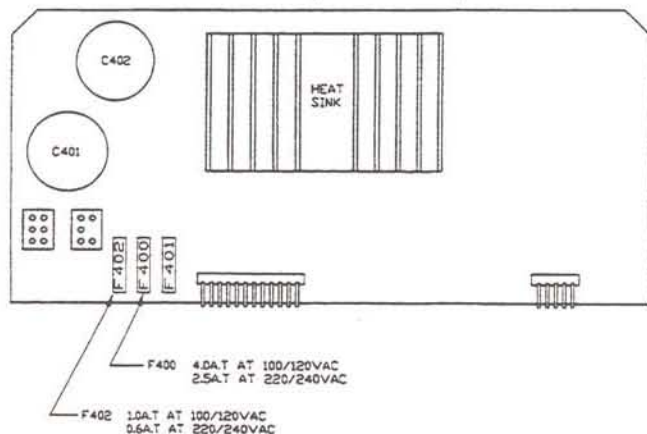

Figure 11. Changing Internal Fuses on Power Supply Board
5. Remove fuses F400 and F402 (see Figure 11); replace with appropriate type and value fuses (see Section 6.7, Technical Specifications).